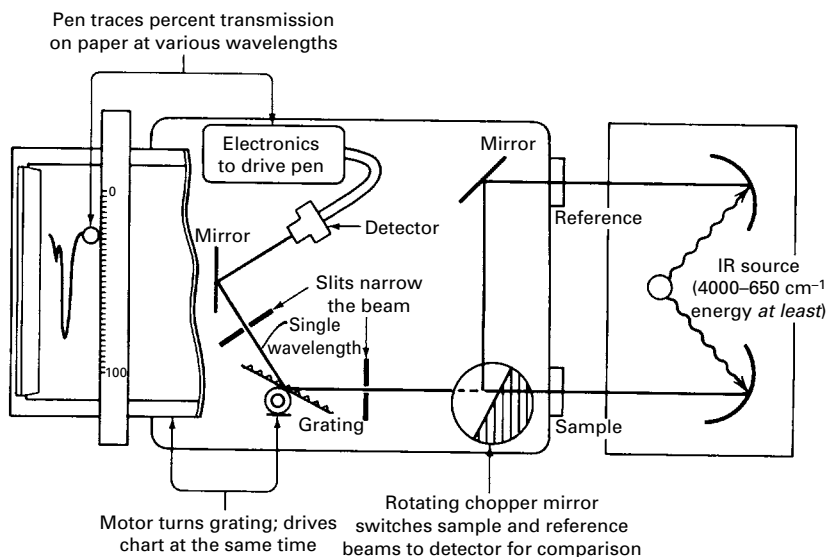

FIGURE 32.17 Schematic diagram of an IR.
1. **The sample beam.** Older IRs are **dual-beam instruments** (Fig. 32.17). The one closest to you, if you're operating the instrument, is the **sample beam**. Logically, there is a **sample holder** for the sample beam, and your sample goes there. And then a beam of IR radiation goes through your sample.